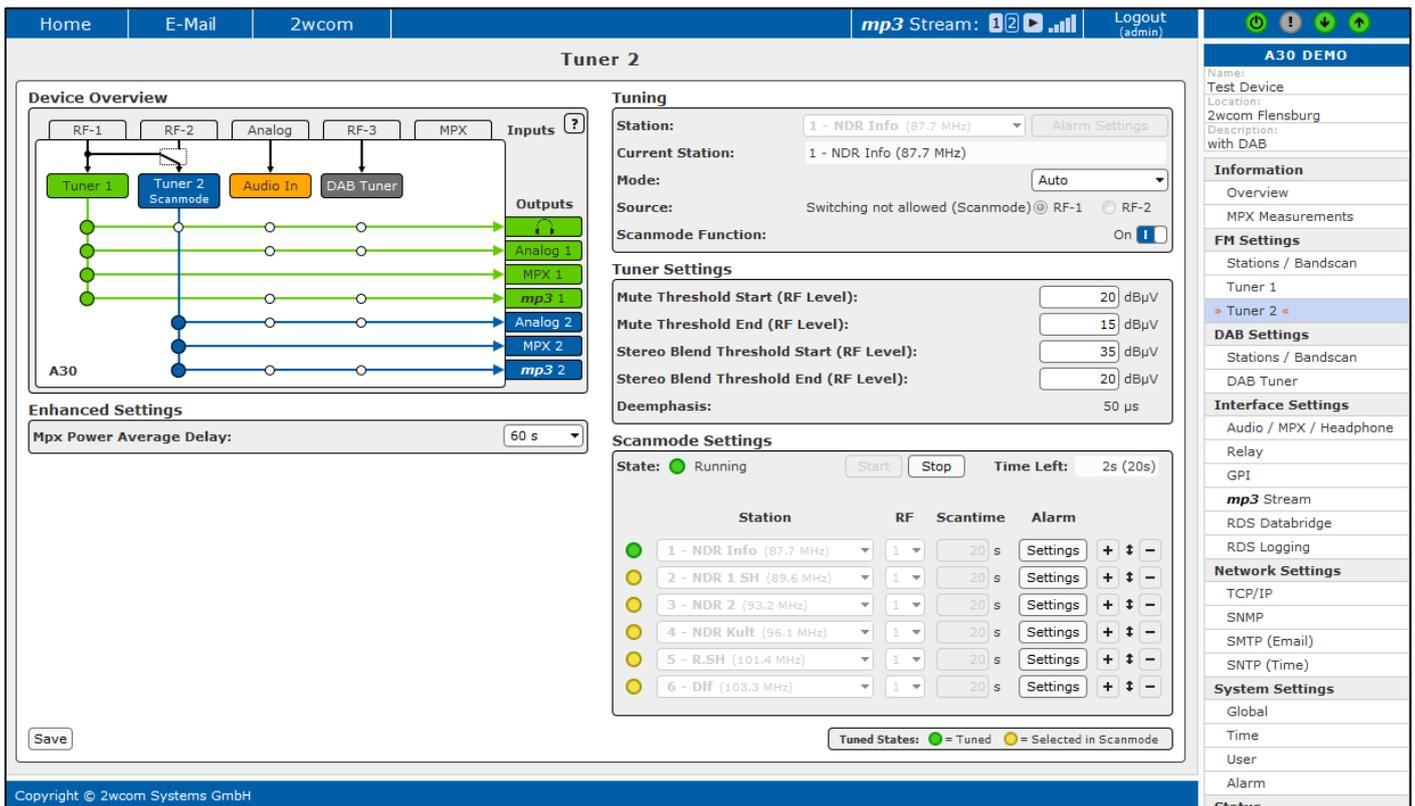
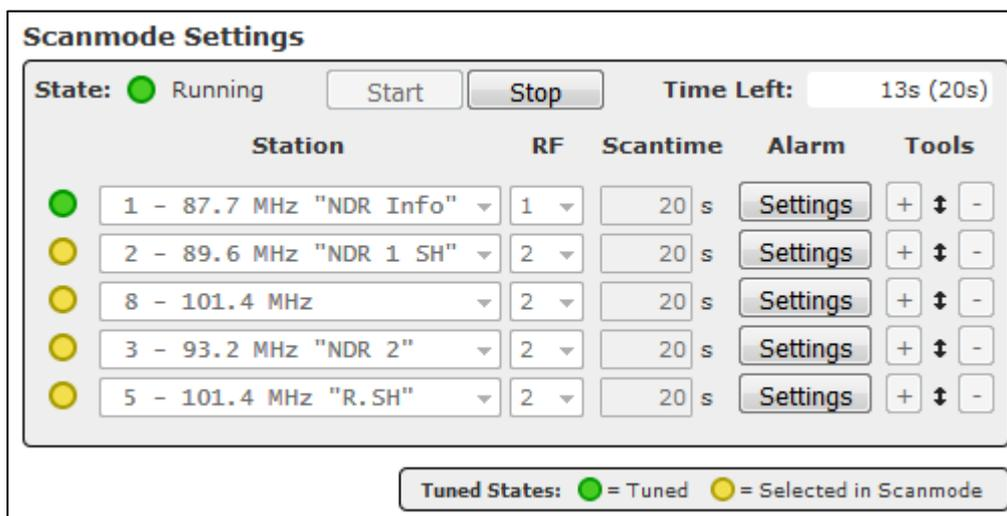

Fig. 14: Tuner 2 - Tuning input setup
Fig. 15: FM Settings - Tuner 2 – Scanmode Settings
2. In the "Tuning" block select a configured Station in the dropdown menu **Station** that should be monitored (see Fig. 14).
2. To activate the scanmode, select "ON" in the virtual switch "Scanmode Function" the checkbox "Enable" in block **Tuning** in the "Scanmode Function" field (see Fig. 14 and Fig. 15).
2. In the "Tuning" block you can view the currently tuned station and the corresponding channel (see Fig. 14).